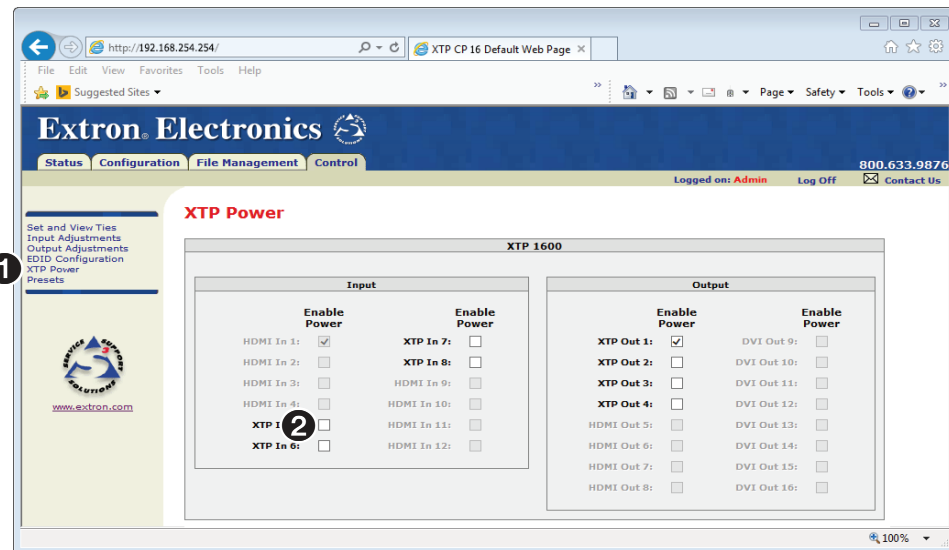

Figure 72. XTP Power Page
The XTP Power page provides a location to enable and disable PoX for all XTP inputs and outputs. Access the XTP Power page by clicking the **XTP Power** link (see figure 72, ①) on the left of the Set and View Ties, Input Adjustments, Output Adjustments, EDID Configuration, or Presets page.